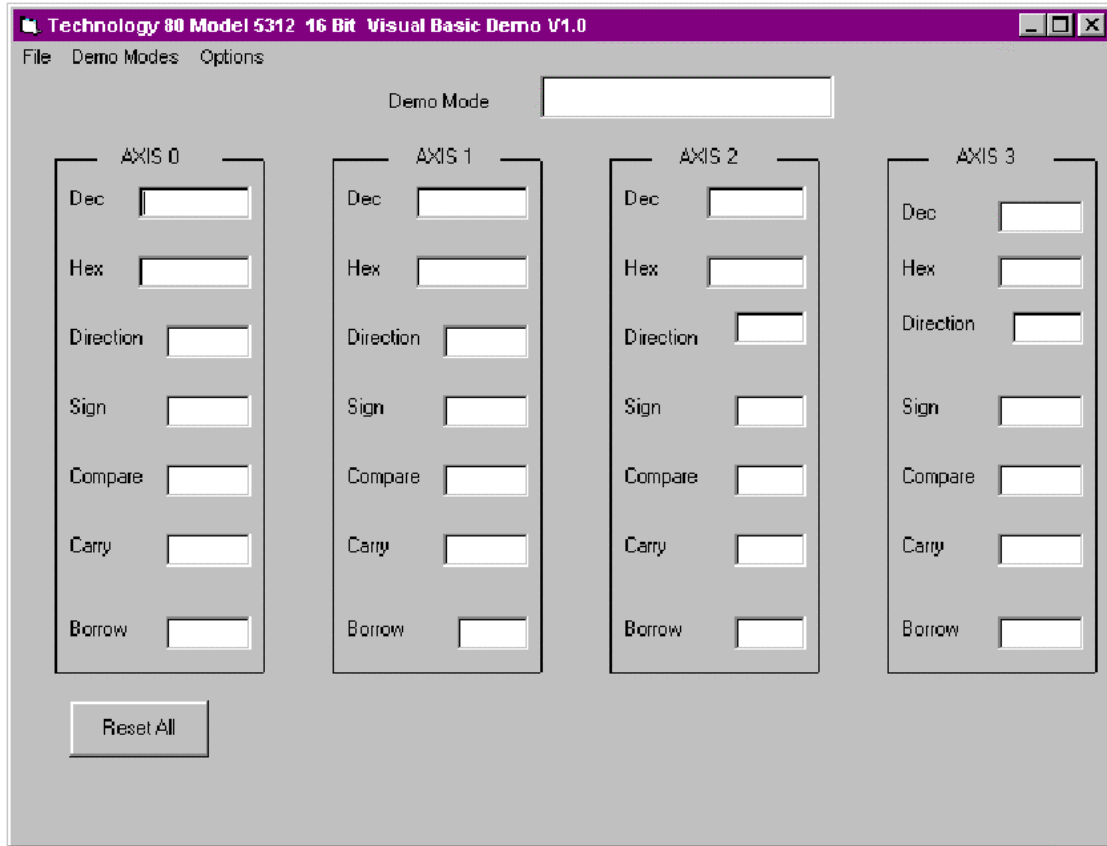

Figure 1: Main User Menu.
Double click on the VB5312 icon. The main user menu should appear as shown in figure 1.
- In the menu depicted in Figure 1, pull down **Options**, choose **Board Address** and then select the address appropriate to the switch settings.